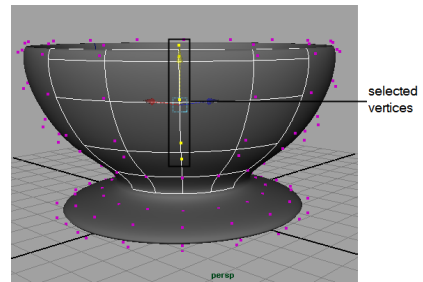

**Figure 3-85** A new isoparm created
3. Make sure that **Surfaces** menuset is selected from the **Menuset** drop-down list in the Status Line. Choose **Edit Curves > Insert Knot** from the menubar; a new isoparm is created on the tea cup, as shown in Figure 3-85.